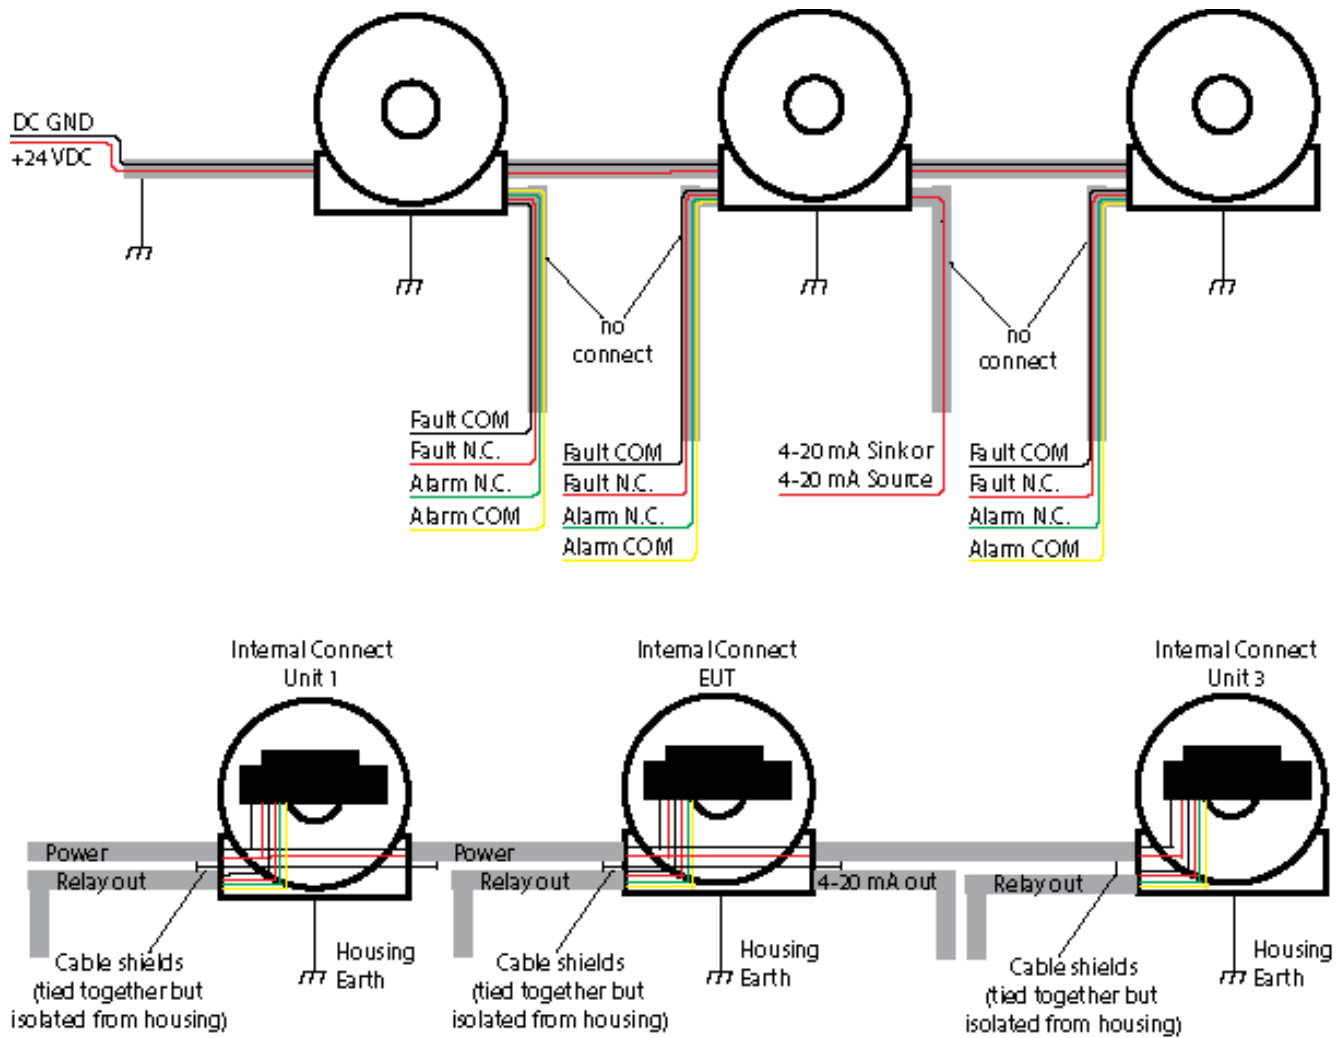

Figure 2-10
The Detector Module puck has a six (6) pin and a ten (10) pin keyed removable connector with screw terminal female plugs that connect to the two (2) respective male connectors with analog, digital, and relay interfaces (see Figure 2-10):
- For **relay configurations**, use the ten (10) pin plug (J2) and its connector.
- For **digital and analog configurations**, use the six (6) pin plug (J1) and its connector.